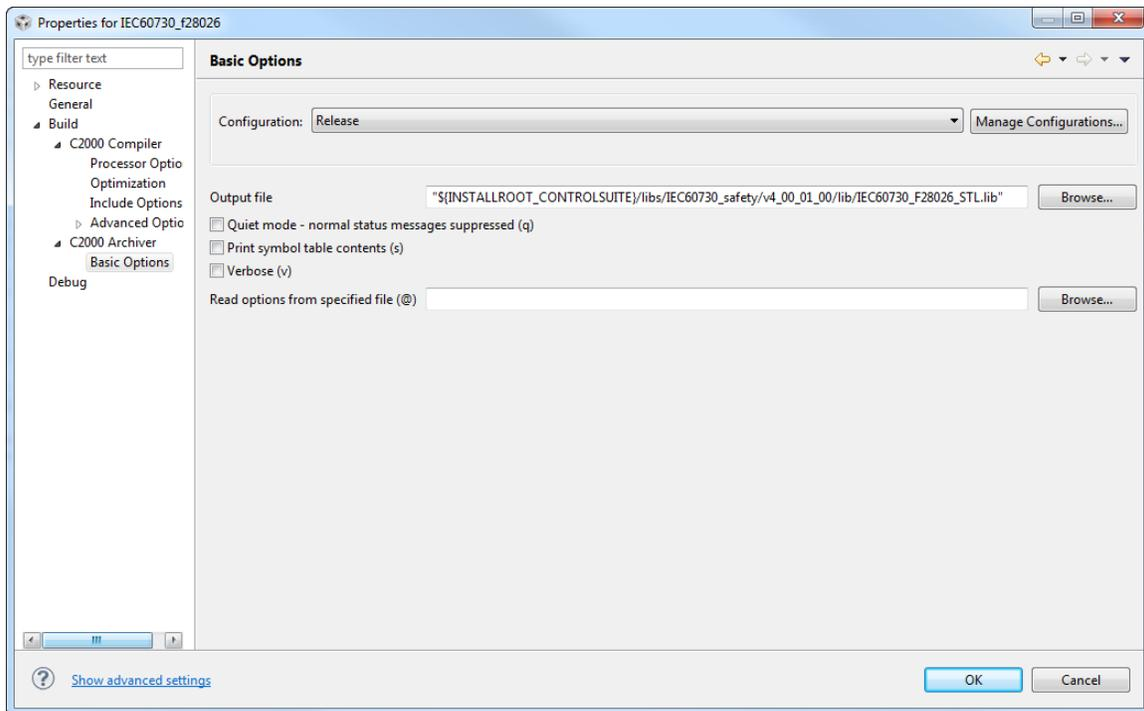

Figure G.3: Setting Library Output name and Directory
8. Click on **Projects** menu > click on **Properties** > expand to **Build** > **C2000 Archiver** > **Basic Options**. In the **Basic Options** in **Output file** text box type in the name of the library and the directory to place the library. For instance if building for f28026, enter **"\${INSTALLROOT\_CONTROLSUITE}/libs/IEC60730\_safety/v4\_00\_01\_00/lib/IEC60730\_F28026\_STL.lib"** > click **OK**. This will set the name of the library and the directory it will be placed after it is built. See figure G.3.